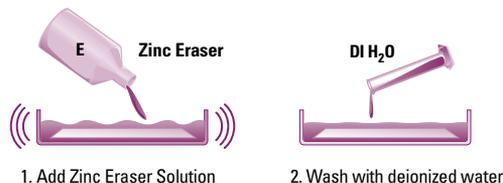

Figure 25. Thermo Scientific Pierce Zinc Reversible Stain protocol.
- **Convenient** – all components are ready to use (Figure 25)